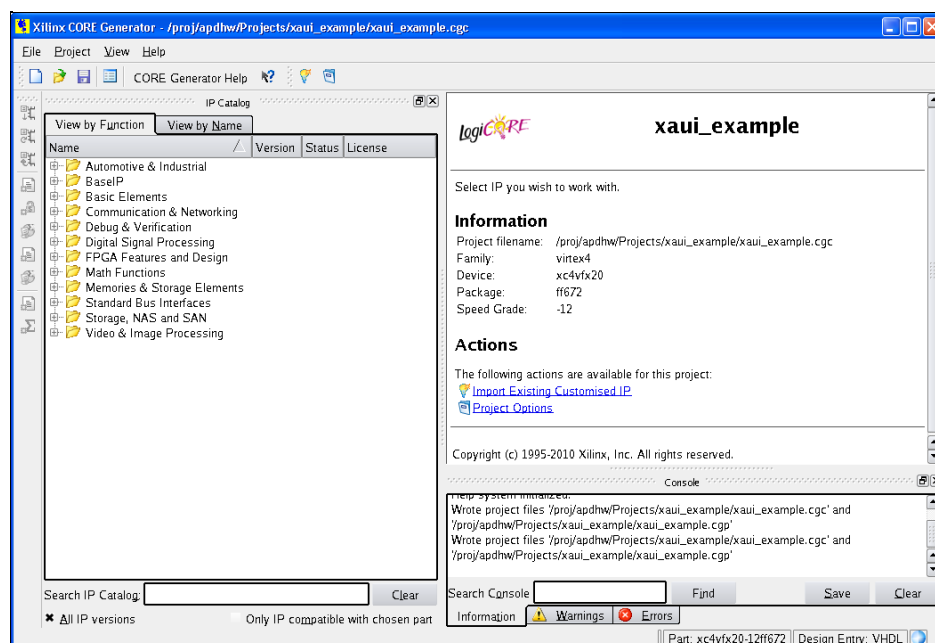

Figure 2-1: CORE Generator Window
2. After creating a new Virtex-4 family FX project or opening an existing one, the IP core functional categories appear at the left side of the window, as shown in Figure 2-1.